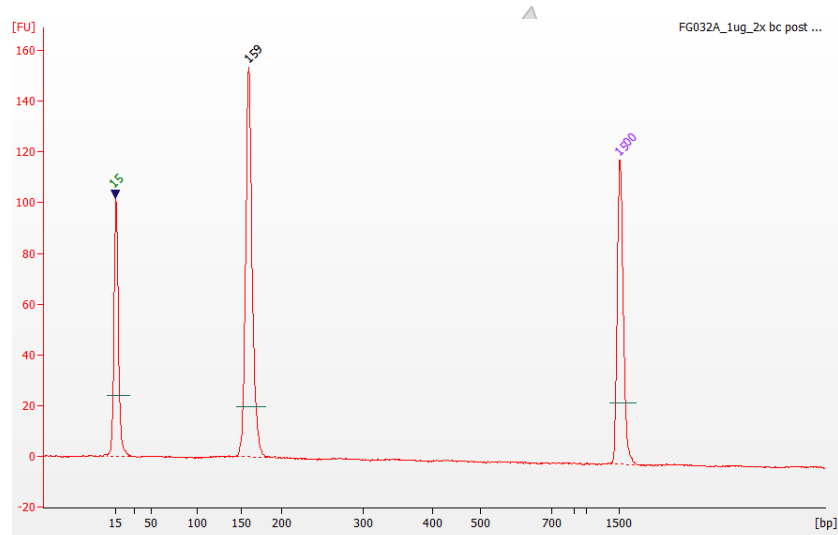

Figure 2. Final QC of PAGE-purified pooled miRNA libraries.
- 11.2. Check the Agilent profile for the correct size fraction. The expected product of 155bp runs on Agilent Bioanalyzer at $\sim 159\text{bp}$ on DNA 1000 (Figure 2). Discuss your results with your APC.